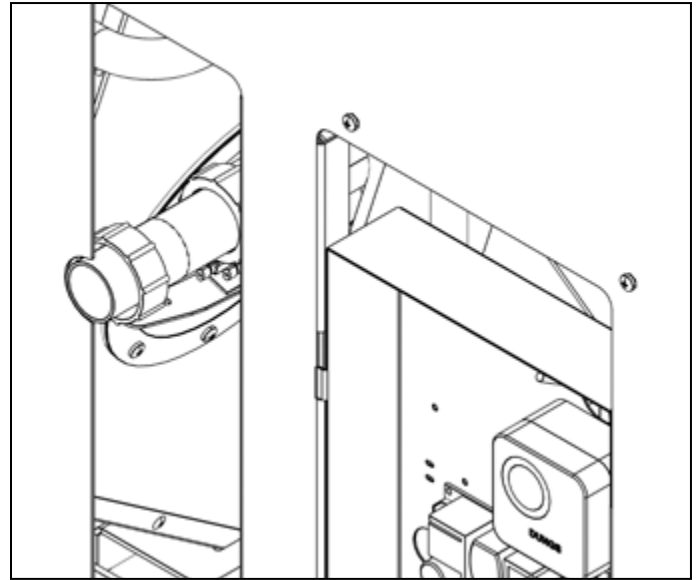

Figure 5-1: Condensate outlet connection inside boiler
- Undo the 5 screws and remove the access panel from the left hand boiler side panel to gain access to the condensate outlet inside the boiler. Refer to Figure 5-1.